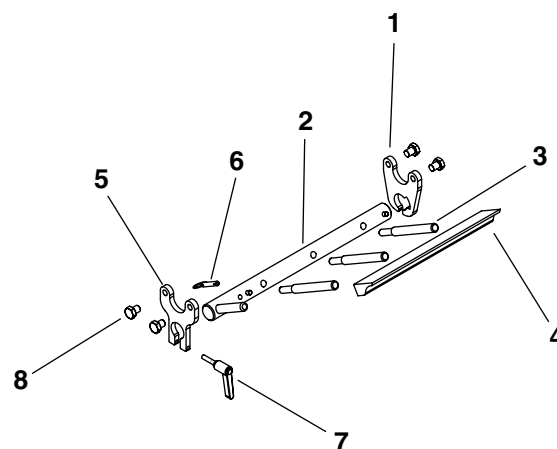

Figure 9
Typical Scraper Components (Figure 9)
1. Attach the scraper adjust plate (Figure 9, item 1) and the scraper mount plate (Figure 9, item 5) to the frame using four M10-1.5 x 12mm hex head cap screws.